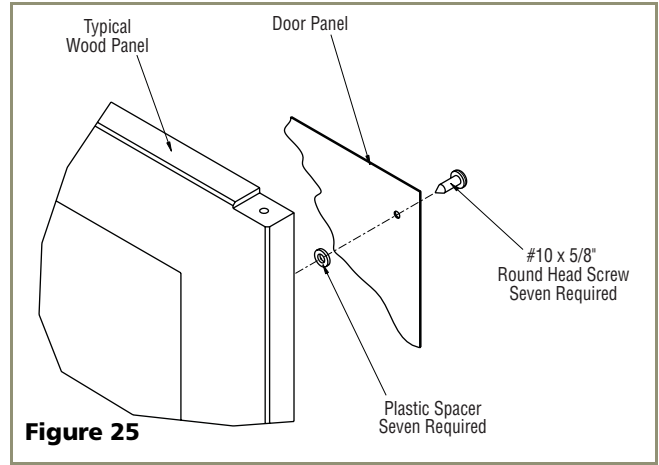

Figure 25
3. Attach the door panel to the overlay panel using #10 x 5/8" wood screws and nylon spacers. The nylon spacers fit between the overlay panel and the door panel as shown in **Figure 25**. The spacers allow the original door panel to slide back into the 1/4"-thick door reveal (channel).
Note: If door is adjusted correctly, but panel is not square with the adjacent cabinets, slight adjustments can be made by drilling the holes in the vinyl coated steel panel slightly oversized. See **Figure 25** on **Page 12**.